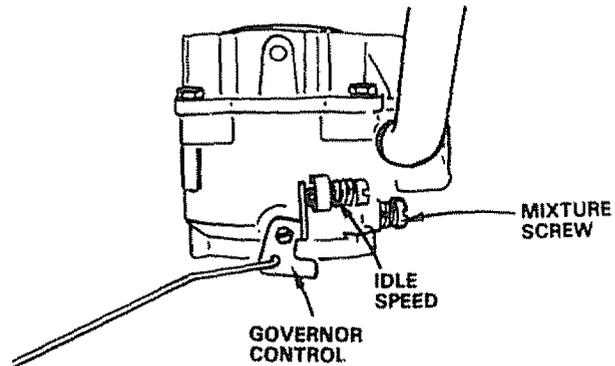

FIGURE 31
- Gently turn idle mixture valve clockwise (↻) Fig. 31 until it just closes and then counterclockwise (↺) 1 1/2 turns
- d. Hold governor control lever against idle speed screw and adjust idle speed screw to obtain 1200 to 1400 RPM Fig. 31